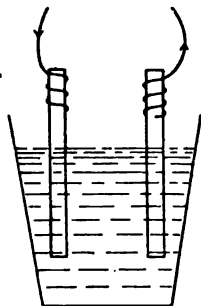

FIG. 260.—Two carbons placed in a solution of copper sulphate.
**280. Electroplating.**—If two carbon rods (electric light carbons answer very well) are placed in a solution of *copper sulphate* (Fig. 260) and then connected by wires to the binding posts of an electric battery, one of the rods soon becomes covered with a coating of *metallic copper* while bubbles of gas may be seen upon the other carbon. If a solution of *lead acetate* is used in the same way a deposit of *metallic lead* is secured, while a solution of *silver nitrate* gives silver.